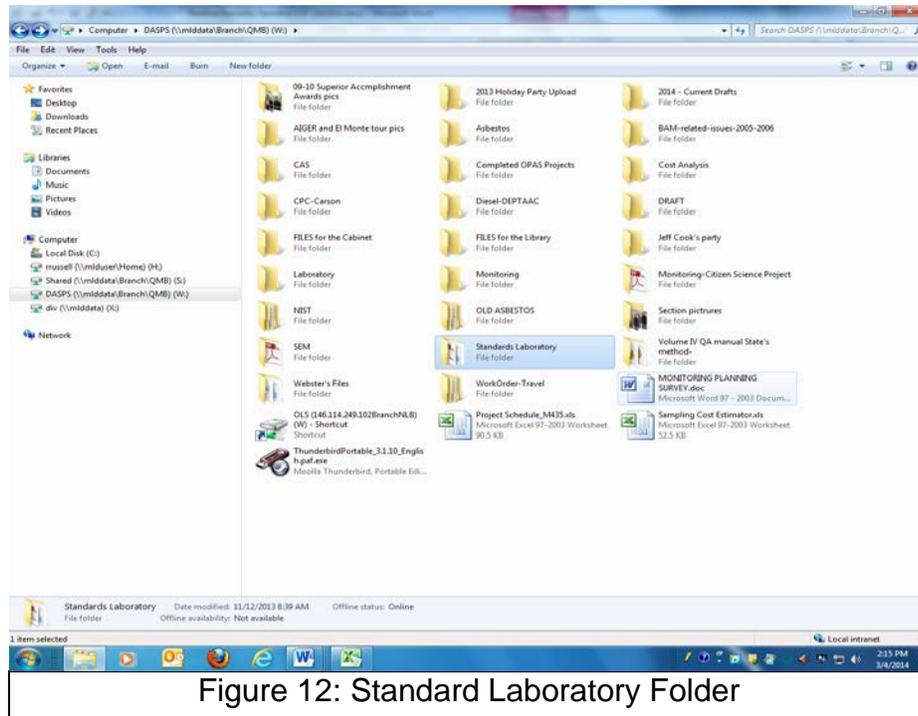

Figure 12: Standard Laboratory Folder
- 12.5 Double Click on the "Standard Laboratory" folder. See Figure 12.